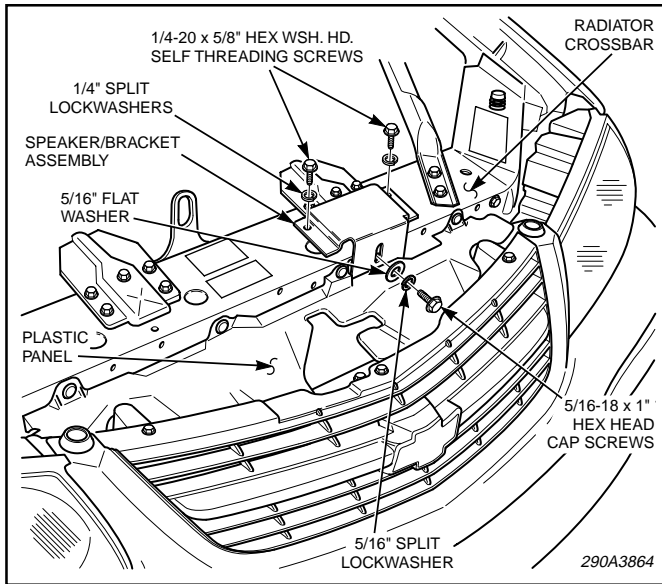

Figure 3.
5. See figure 3. Place the speaker/bracket assembly over the driver-side motor-mount bracket. Using the bracket as a template, scribe two drill position marks on the radiator crossbar.
8. See figure 3. Place the speaker/bracket assembly in position between the radiator and grille. If necessary, adjust the speaker on the bracket to avoid interference on the speaker sides.
9. Secure the speaker/bracket assembly to the top of the radiator crossbar using the 1/4 x 5/8" thread-forming bolts. Secure the speaker/bracket assembly to the front of the radiator crossbar using the 5/16-18 x 1" bolt, 5/16" flat washer, and 5/16" lockwasher as shown in figure 3.